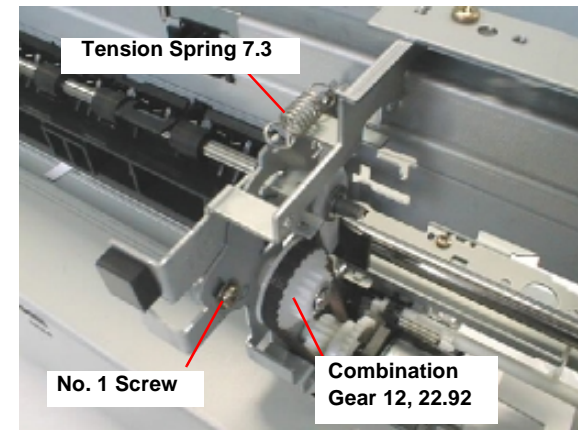

Figure 4-20. Removing the Tension Spring
- 5) Using tweezers, remove the Tension Spring 7.37 on the Middle Frame and loosen the No. 1 screw securing the Metal Plate for Combination gear 12,22.92. Refer to Figure 4-20.